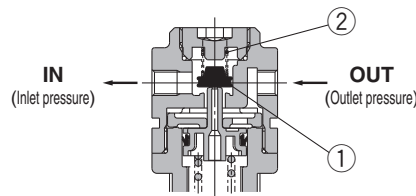

Figure 2
When the inlet pressure is shut off and exhausted, any inlet pressure applied to the valve ① will be lost. The force for seating the valve ① is the valve spring force ② only. When the valve ① is opened using the outlet force, the outlet pressure will be exhausted at the inlet side (Figure 2). When the set pressure is 0.15 MPa or less, the valve ① may not open due to the valve spring ② force.